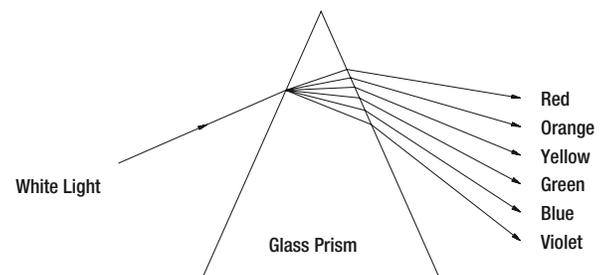

Figure 2: Dispersion of white light by a prism
Like many before him, Newton noticed that the sunlight streaming through his window cast an image of many colors on his floor. His piqued curiosity led to experiments that eventually bore out his suspicions that white light is indeed comprised of all colors of light (Figure 2). The array of colored lights derived from white light came to be called the "spectrum." Later studies of the spectrum indicated that a source of energy beyond the red light caused an elevation in temperature. Upon finding this unexpected energy source (IR), investigation of the portion beyond the violet at the other end of the visible spectrum ultimately led to the discovery of a high energy band later named the ultraviolet.